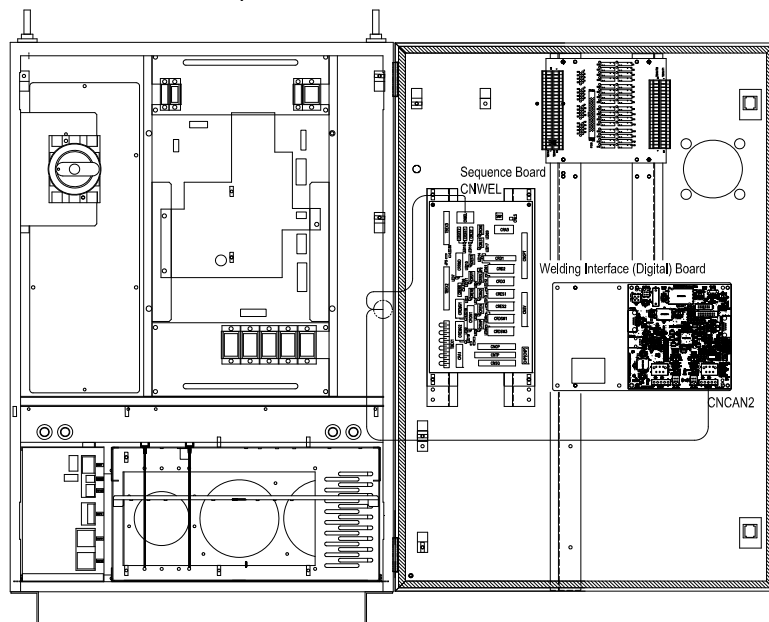

Figure 2.1.6 Connection of control cable 5 (Cable wiring and connector connection)
- 4 Wire the cables as shown in Figure 2.1.6, and connect the Welding Interface (Digital) Board CNCAN2 and the Sequence Board CNWEL.